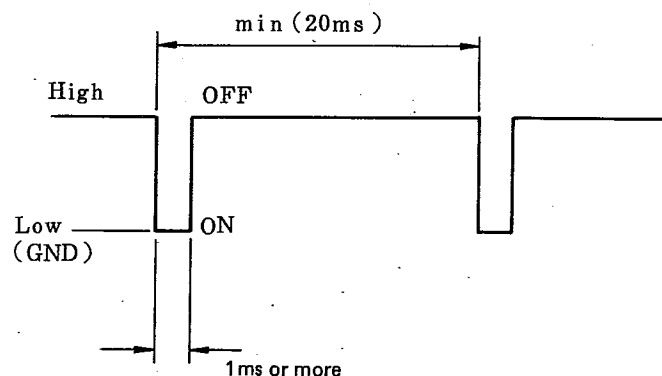

Fig. 7-2 Control signal timing for UP, DOWN, CLR, FREQ SW, and LEVEL SW terminals
A pulse on the UP or DOWN terminal increments or decrements the stored memory address used for single and sequential recall of assorted preset data (paragraph 4-9, (3) and (4)). A pulse on CLR terminal sets the memory address to 00 for single recall of assorted preset data or to the start address for restricted sequential recall of assorted preset data. Fig. 7-2 shows the requisite timing for these control signals.
Each function is activated by pulling the corresponding terminal LOW. These functions are equivalent to pressing the FUNCTION keys FREQ and LEVEL. (see paragraph 4-5, (3) and 4-6, (3).) The control signal timing is shown in Fig. 7-2.